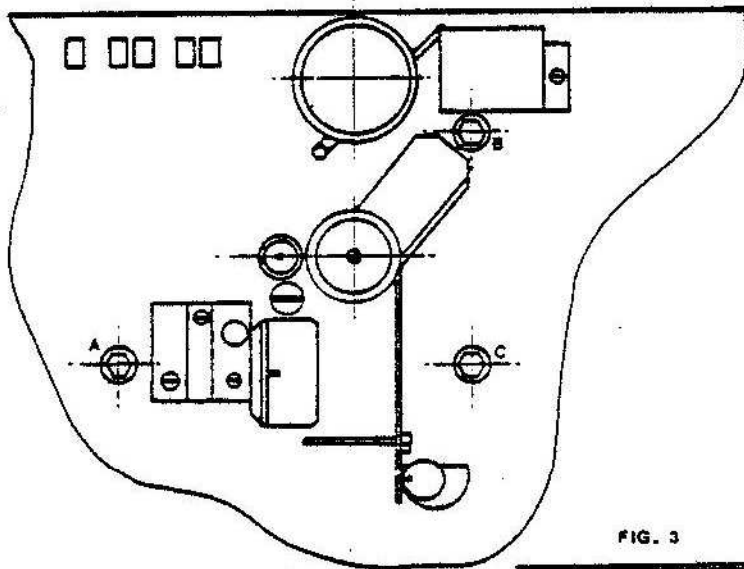

FIG. 3
- 5.5.1 Removal - Refer to figure 3.
- 5.5.2 Assembly - Refer to figure 3 and 4.